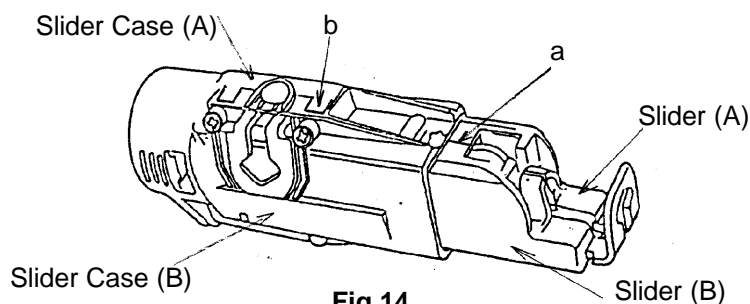

Fig.14
- (1) Make sure that the joint between the Slider (A)/(B) is completely level at the point marked (a) in Fig. 14 (as this is essential for proper sliding).
- (2) If the top surface (b) (Fig. 14) of the screw seat of Slider Case (A) is lower than Slider Case (B), it is likely to result in improper sliding movement. Adjust the top surface (b) of the screw seat of Slider Case (A) to be flush with or a little higher than Slider Case (B).